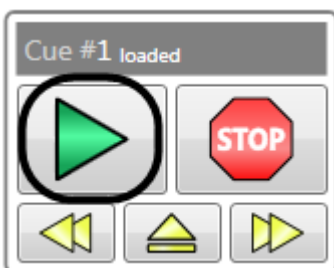

Figure 327
1. You can press the **GO** button in the **Cue Controller** in the **Stagehand Editing Pane** (Figure 327).